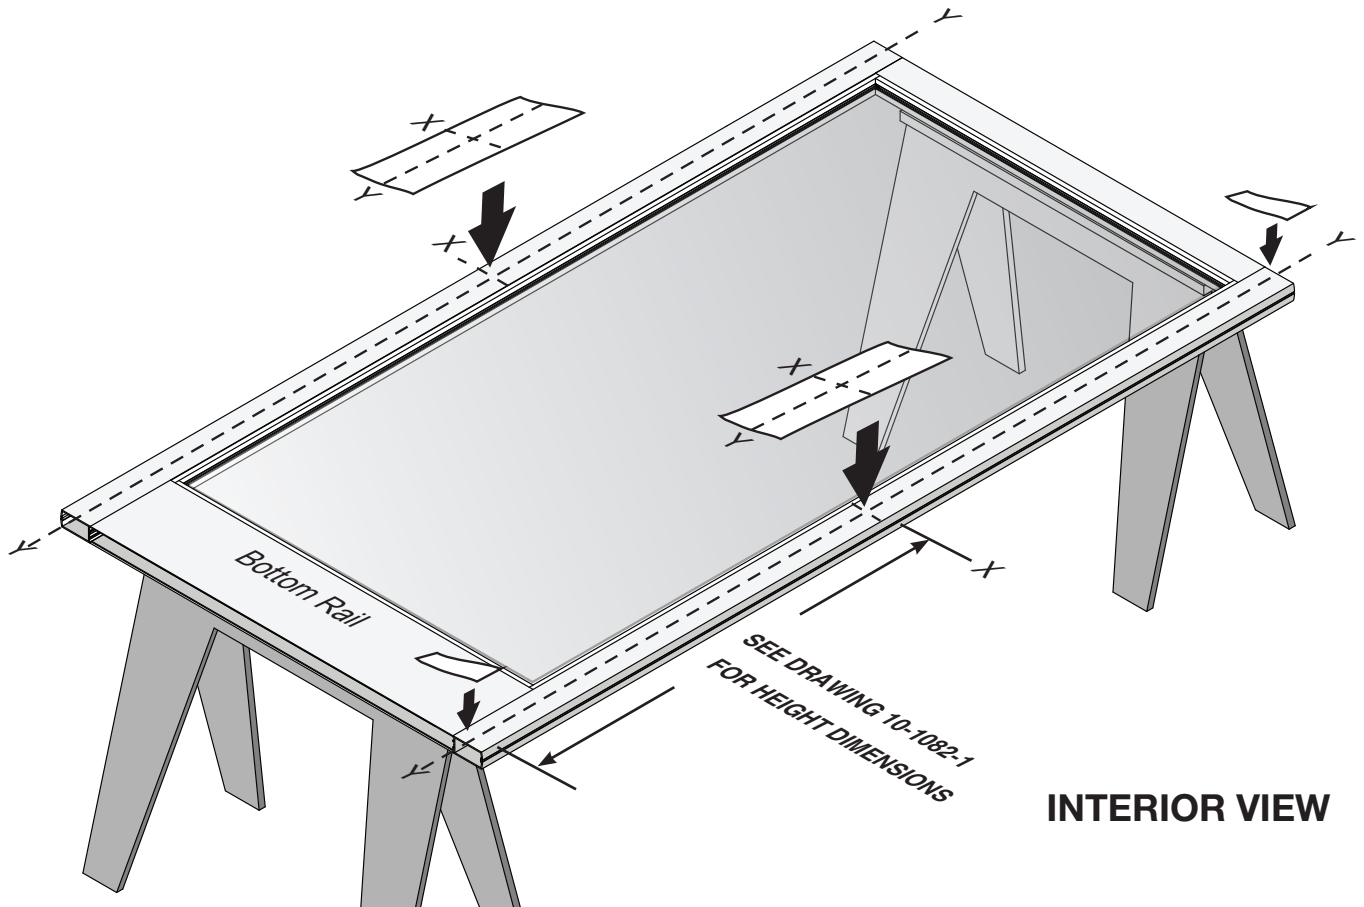

FIG. 2
3. Mark the corresponding layouts on to the stile using the vertical centerlines at the specified height. (Fig. 2)